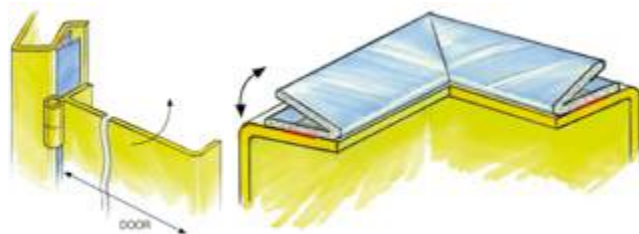

Figure 55 : V-shape gasket to prevent high closure force
- 55 To prevent high closure force** V-shaped gaskets can be used which clamp the door not in the direction of the opening but in the direction of the door, so only the friction force is the closing force. (Fig. 55)